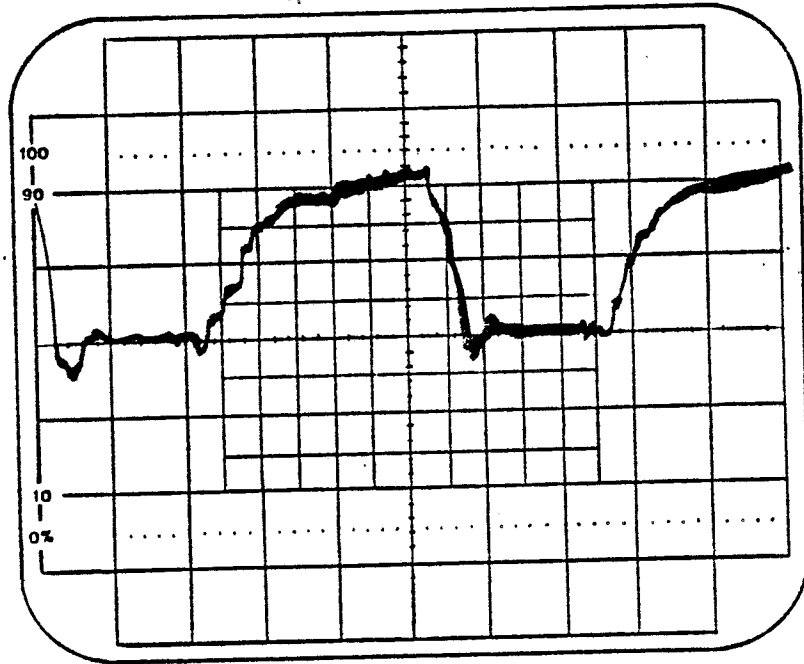

Figure 3-1
- 3) When board is selected, IC X pin 1 will be LOW. Check $\overline{\text{CAS}}$ at IC H pin 12 for double negative going pulses when board is selected (Figure 3-1).